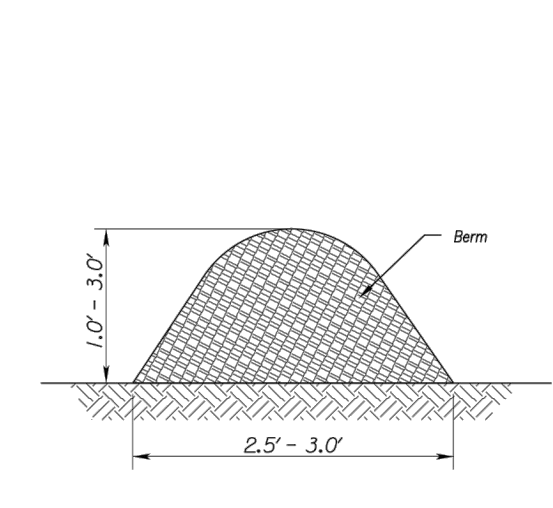
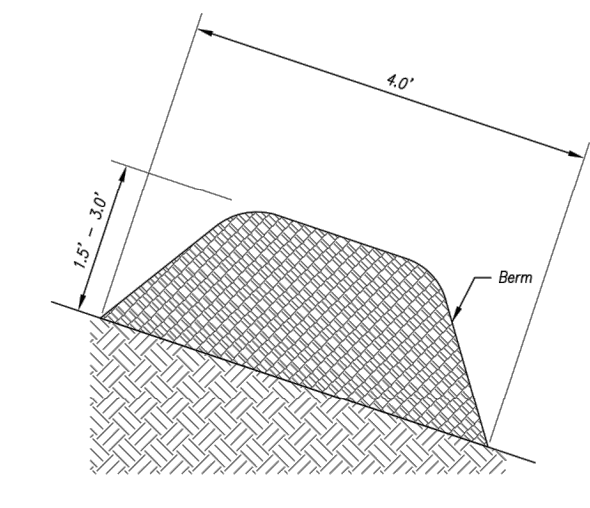

Figure 1
Figure 2
- Parallel to the base of the slope, or around the perimeter of other affected areas, construct a 1 to 3 foot high by 2.5 to 3 foot wide berm (see Figure 1). For maximum water treatment ability or for steep slopes, construct a 1.5 to 3 foot high (trapezoidal) berm that is a minimum of 4 feet wide at the base (see Figure 2). In extreme conditions, or where specified by the engineer, a second berm shall be constructed at the top of the slope. Engineer will specify berm requirements.